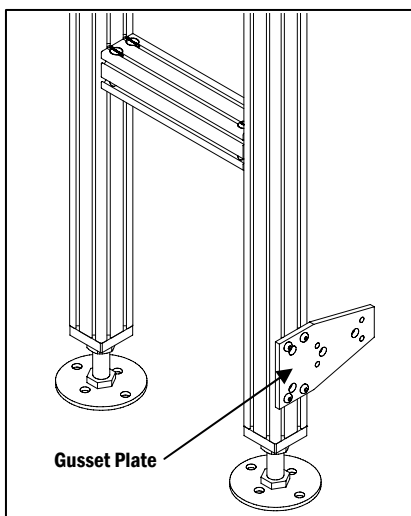
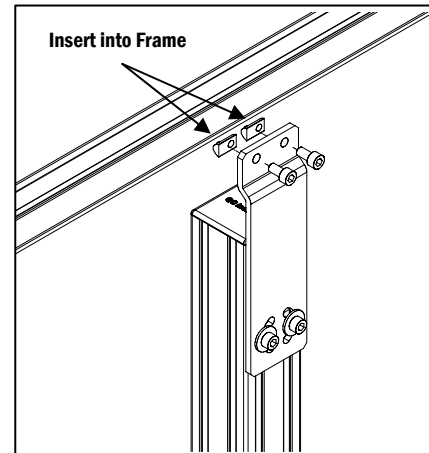

Figure 3
Figure 4
b. If the stands are to be used with Aluminum Cross Ties, it is advised to attach the Gusset Plates prior to mounting the conveyor (Figure 3). Refer to Section 2.06 on Aluminum Cross Ties for specific instructions.
② Install the Stand
b. Insert the Drop In Nuts into the T-Slot in the conveyor frame. Line up the stand assembly brackets to the Drop In Nuts, insert the M6 Socket head Cap Screws through the bracket and fasten the stand to the frame (**Figure 4**).